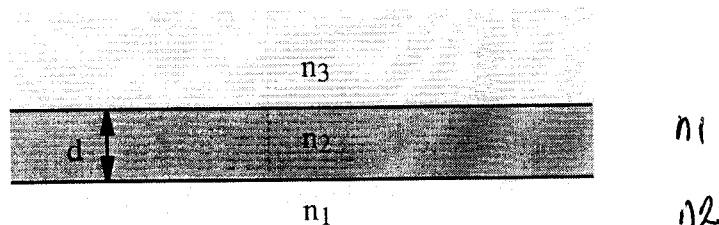

Figure 1.1.
1. An asymmetric dielectric waveguide is constructed from three layers of material, with refractive indices n_1 , n_2 and n_3 as shown in Figure 1.1. The core thickness is d . The eigenvalue equation for TE modes in such a guide can be obtained as: